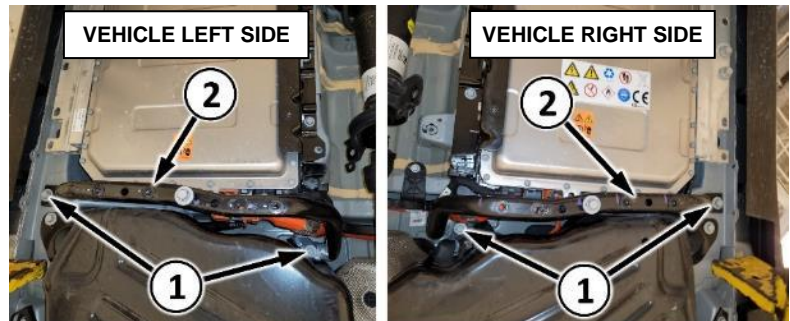

Figure 48– HV Battery Skid Plate Braces
- 32. Loosen the bolts securing the skid plate braces (Figure 48).
- 33. Remove the braces from the vehicle (Figure 48).
43. Using Table, Bishamon Lift BX50-CHR or a suitable lift, remove the fasteners securing the HV battery to the vehicle and remove the secondary battery from the vehicle (Figure 48).
58. Install the skid plate braces. Tighten the bolts to 55 N·m (40 Ft. Lbs.) (Figure 48).